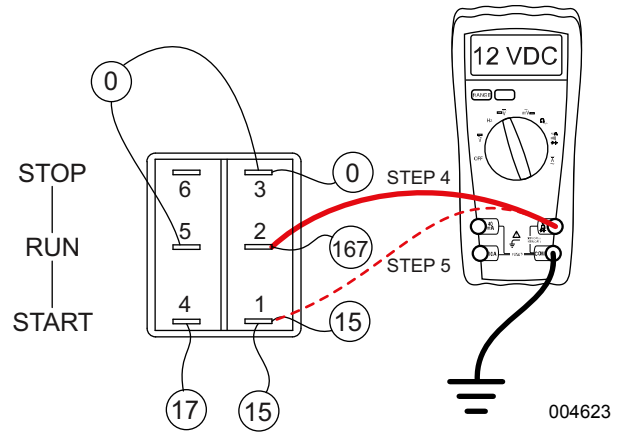

Figure 4-45. Test Wire 167, Steps 9-13
12. See **Figure 4-45**. Connect the positive meter test to wire 15 at SW1.